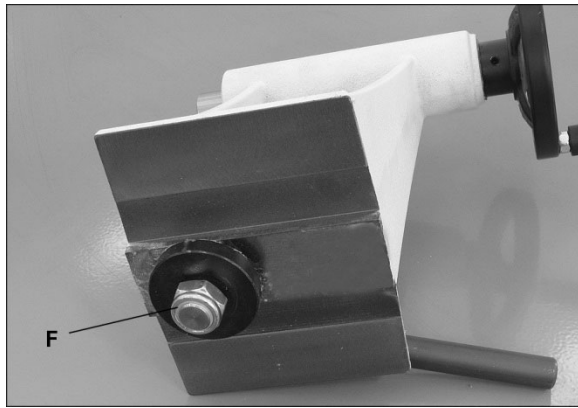

Figure 7-4: cam adjustment
If one of them does not tighten properly against the bed when the locking handle is tightened, adjust it as follows. (Figure 7-4 uses tailstock as example.)
2. Turn tailstock on its side, and tighten lock nut (F, Figure 7-4) to increase cam pressure, or loosen the nut to relieve cam pressure.